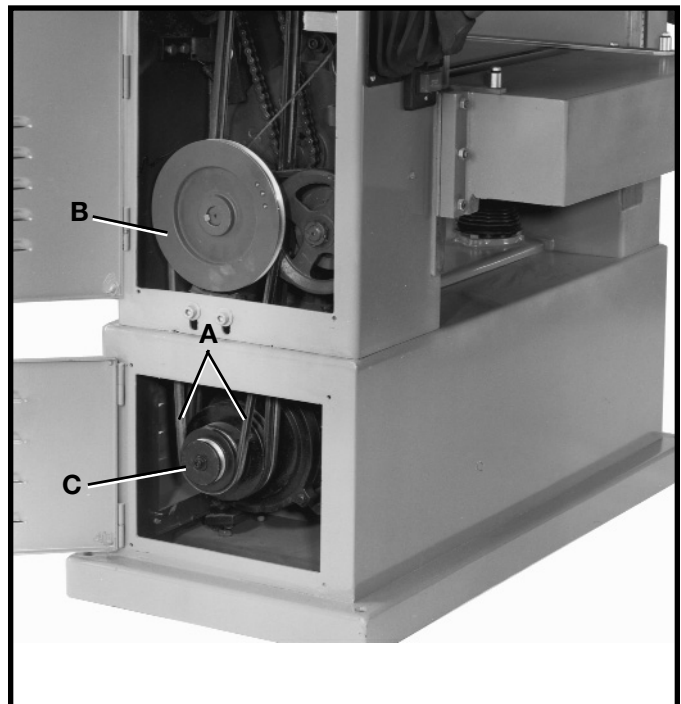

Fig. 30
Proper tension on the feed roller belt is obtained when there is approximately 1/2" deflection, using light finger pressure on feed roller belt (A) Fig. 30, midway between pulleys (B) and (C), with feed roller lever (D) engaged. If an adjustment is necessary, proceed as follows:
- Engage feed roller lever (D) Fig. 30.